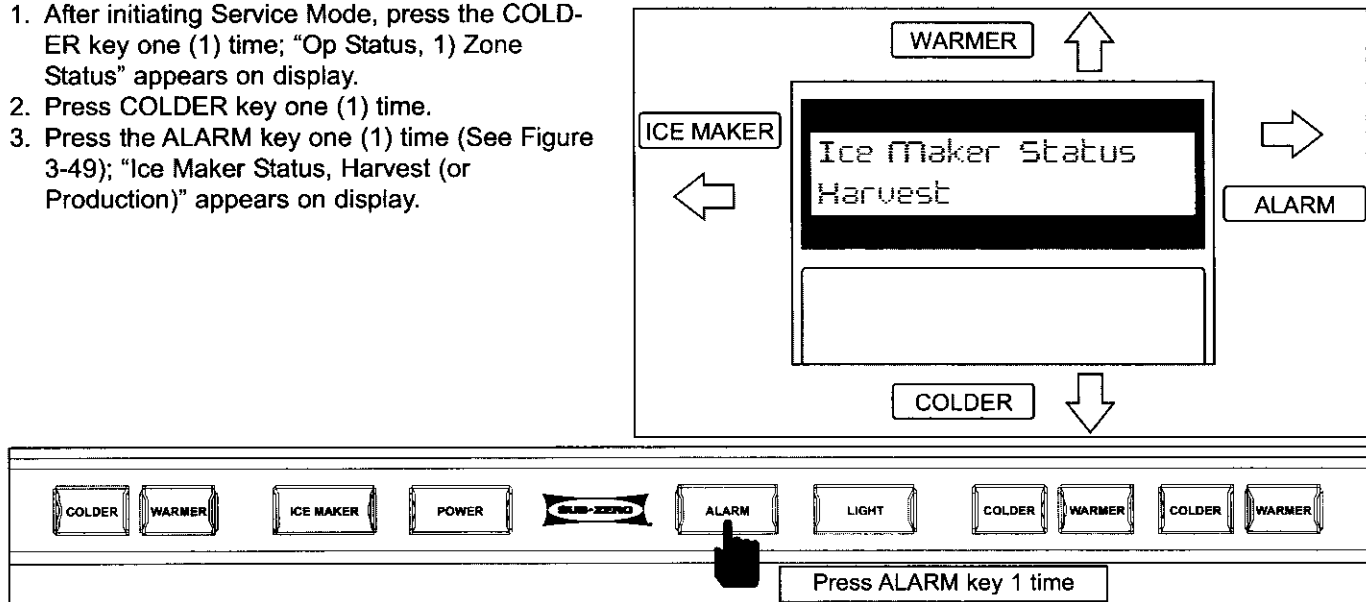

Figure 3-49. Key Strokes and Tech Display - Operational Status, Ice Maker
1. After initiating Service Mode, press the COLDER key one (1) time; "Op Status, 1) Zone Status" appears on display.
2. Press COLDER key one (1) time.
3. Press the ALARM key one (1) time (See Figure 3-49); "Ice Maker Status, Harvest (or Production)" appears on display.